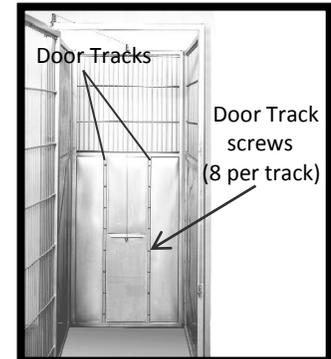

Figure 62: Guillotine Door tracks and screws
2. With a Phillips screwdriver, remove the eight screws holding the door track to the back panel (Figure 62).
5. With a Phillips screwdriver, remove all the screws holding both door tracks to the back panel (Figure 62), and remove the door tracks.